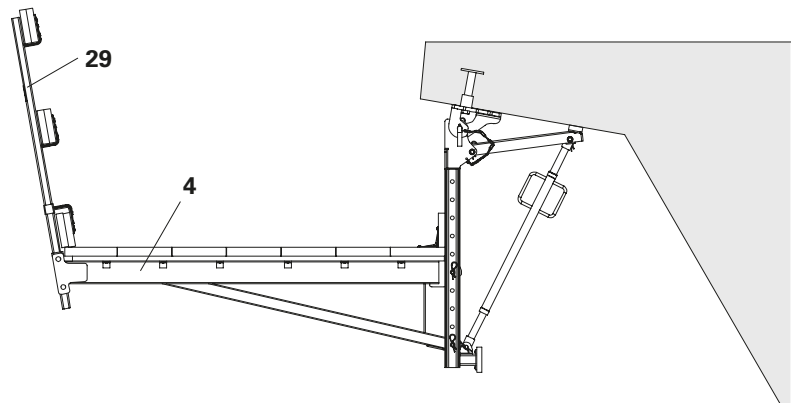

Fig. B2.02
1. Insert Guardrail Post -2 HSGP (29) into all Platform Cantil. Beams VGK 170 (4). (Fig. B2.02)